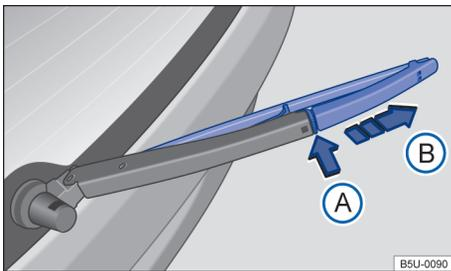

Fig. 155 Replacing the rear window wiper blades.
- Press and hold the release button → Fig. 155 ⓘ pressed.